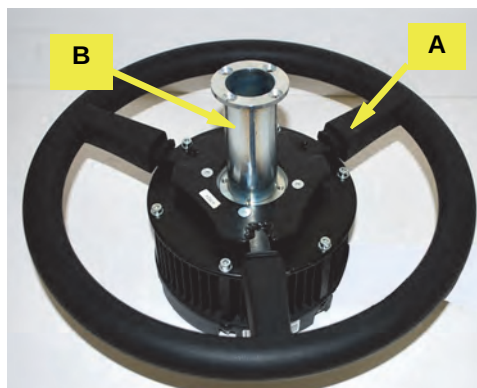

Figure 1a: Inserting shaft adapter into steering wheel
- Place the VSi steering wheel assembly **A** on a clean surface with the wheel facing up. Insert shaft adapter **B** into steering wheel **A** (Figure 1a).